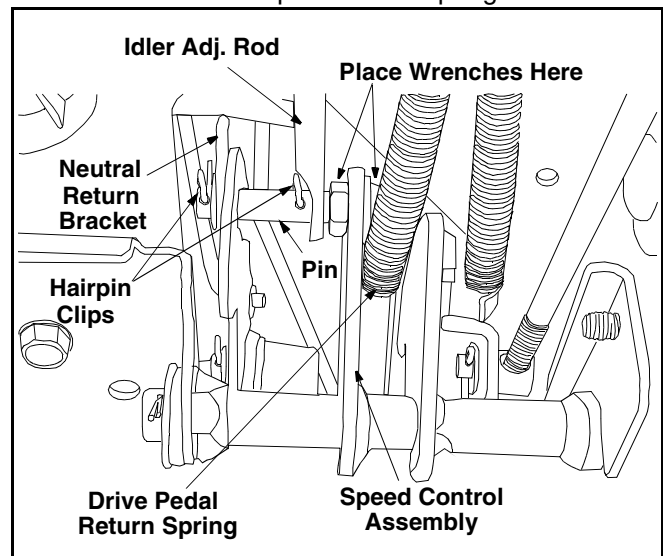

Figure 26
- Locate the speed control assembly on the underside of the steering support bracket. See Figure 26.
- Remove both hairpin clips from the pin which is fastened to the speed control assembly (be careful not to lose the small flat washers found on the pin). See Figure 26.
Using two 9/16" wrenches, remove the pin from the speed control assembly. See Figure 26.